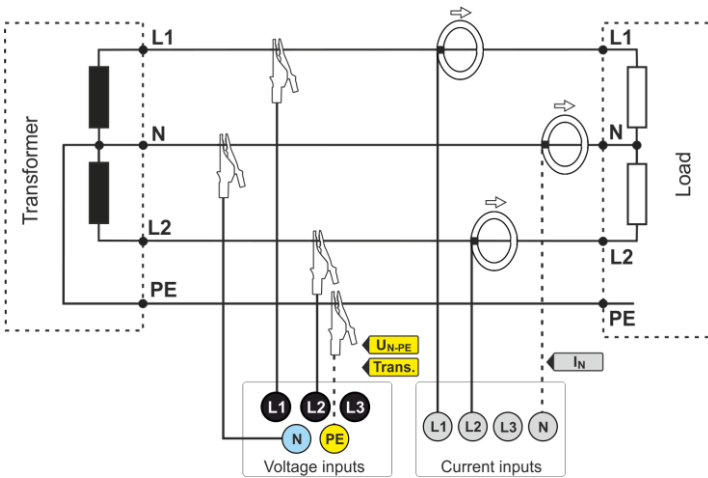

Fig. 17. Wiring diagram – split-phase.
- 2-phase (split-phase) with split-winding of the transformer (Fig. 17),